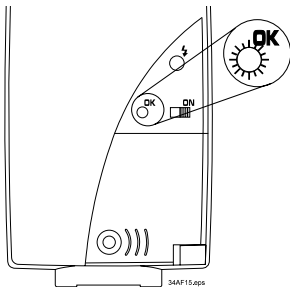

Fig. 4: Exposure o.k.
4.3 Correct-exposure indication (see fig. 4)